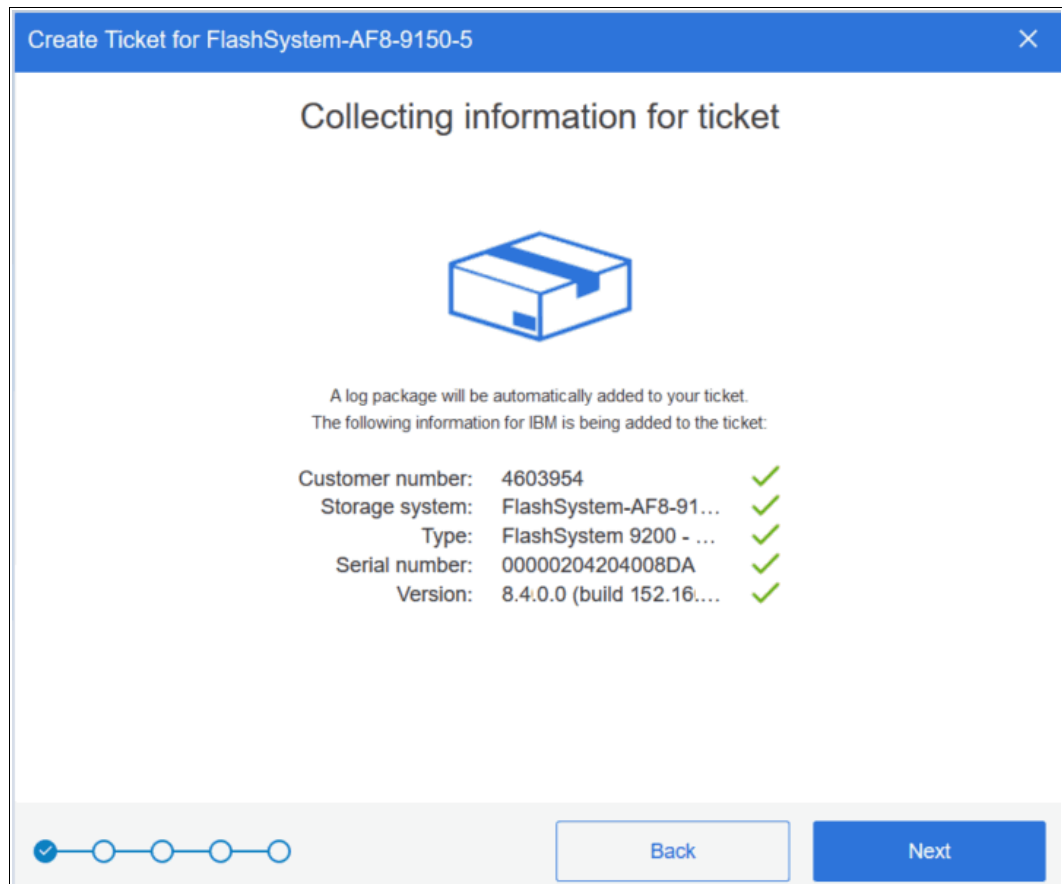

Figure 13-85 Create Ticket wizard
2. Select **Create Ticket**, and the ticket creation wizard opens. Details of the system are automatically populated, including the customer number, as shown in Figure 13-85. Select **Next**.